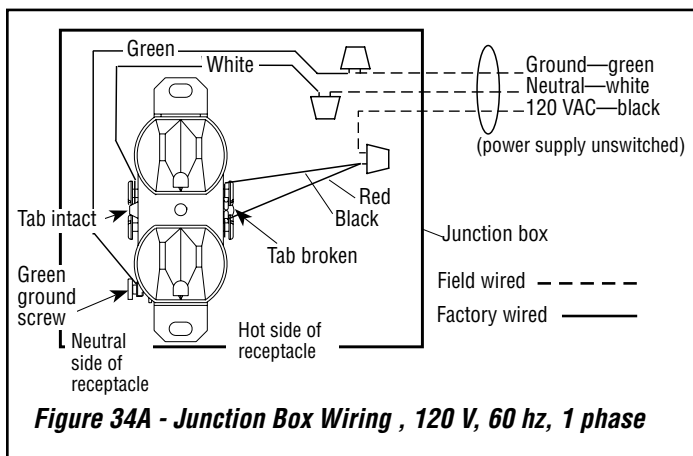

Figure 34A - Junction Box Wiring , 120 V, 60 Hz, 1 phase
4. Connect the black power supply wire to the power outlet black wire and red if included (red not included in all models). Connect the white power supply wire to the outlet common terminal (**Figure 34A**).
5. Connect the ground supply wire to the pigtail lead attached to the outlet's green ground screw (**Figure 34A**). Restrain the inlet power lead per NEC or local codes.